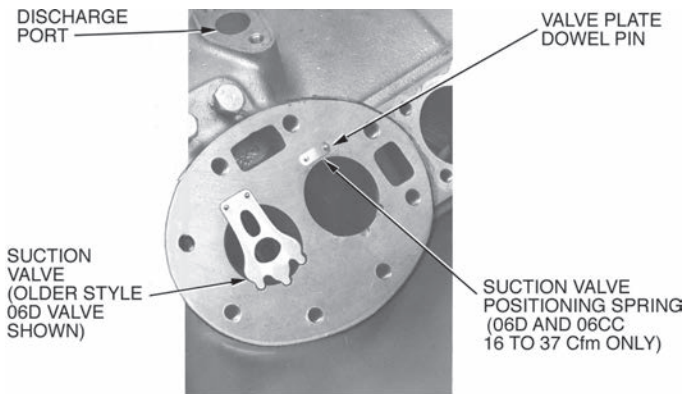

Fig. 5 — Suction Valve and Positioning Springs in Place (06D Shown)
4. Pry up along sides of valve plate to remove valve plate from crankcase. This provides access to suction reed valves (see Fig. 4). Remove suction valves from dowel pins. On 06D and 06CC (16 to 37 Cfm) compressors, also remove the suction valve positioning springs (see Fig. 5).
1. If reassembling existing components, do not interchange valves or turn them over. They must be reassembled in their original position. Install the suction valve positioning springs (06CC size 16 to 37 Cfm and 06D compressors only) on dowel pins. Assemble positioning springs with spring ends bearing against cylinder deck (Fig. 5), spring bow upward.